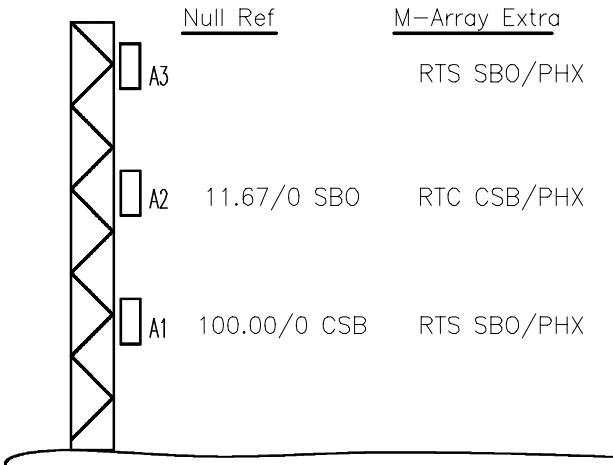

Fig. CPN303 The M-ARRAY signals
The RTC is the percentage amplitude ratio between the CSB in A2 to CSB in A1. The nominal value is 50 %. See fig. CPN303.
The RTS is the percentage amplitude ratio between the SBO in A1 & A3 with respect to SBO in A2. The nominal value is 50 %. See fig. CPN303.
The PHX is the RF phase of all extra signals relative to Null Reference system. The nominal value is 180°. See fig. CPN303.
*Note: The antenna elements are numbered from the lowest antenna to the highest one. The lowest one is always A1. See fig. CPN303*